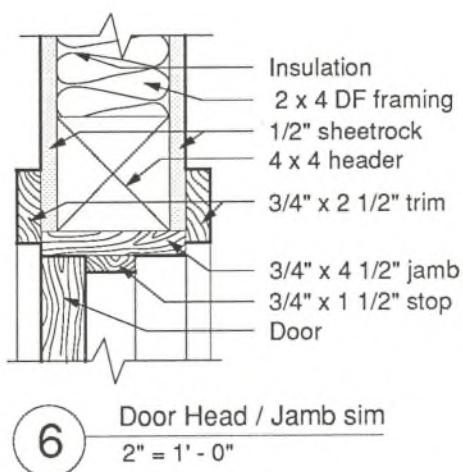
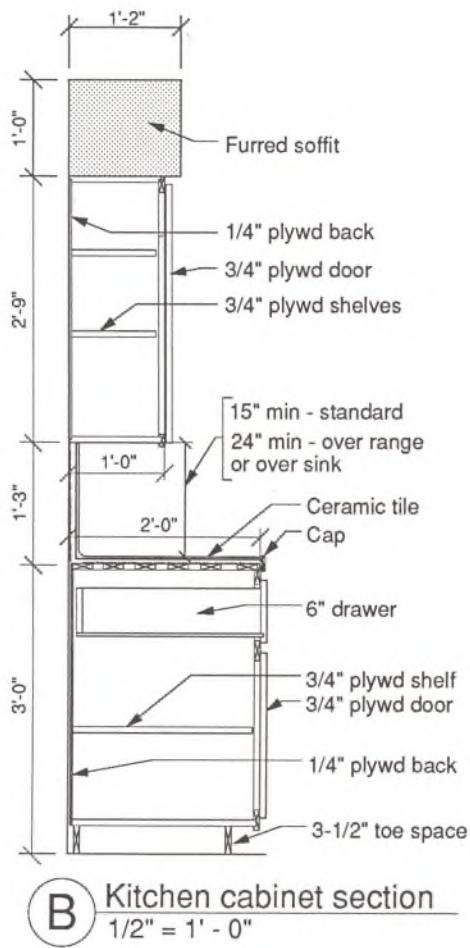
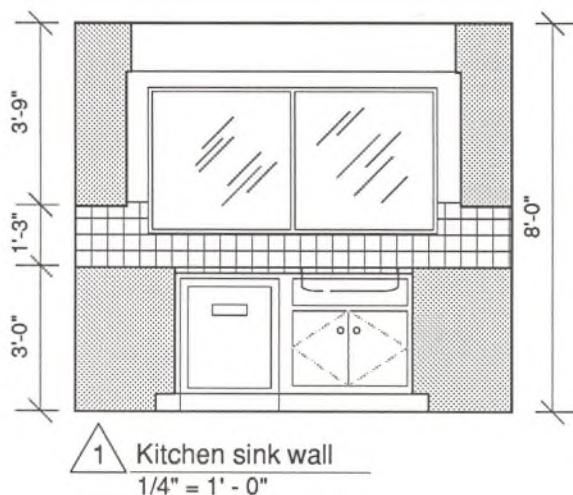

Fig. 25.8
Fig. 25.13 A section view of kitchen cabinetry showing construction methods and measurements.
Fig. 25.14 An interior kitchen wall elevation.
Window and Door Sections and Details Figures 25.8 through 11 are drawings prepared to show typical finish framing around doors and windows. Note that the section-cut symbols on these drawings are keyed to the exterior wall elevation in Fig. 25.12.
Cabinet Sections and Details Figures 25.14 and 15, which are interior wall elevations showing kitchen cabinets, are typical of the type of cabinet drawings required. Similar details should be drawn for any other cabinets in the plan. Fig. 25.13 is a section view of the kitchen cabinets, showing construction methods and materials.
Figures 25.8 through 11 are examples of typical door and window framing details. They show such things as the method of construction and the size and kind of materials used. The elevation view in Fig. 25.14 is keyed to the window and door details. The section-cut symbols show the location of each part and where it is cut through.
The section-cut symbols in Fig. 25.14 indicate where the details are cut through. See Unit 21, Dimensions and Notes, for information on drawing section symbols.
Cabinetry details are typically shown in plan, section, and/or interior elevation views. (See Figs. 25.13 through 15.) An interior-wall elevation is a vertical view of any given wall area.
3. Referring to the kitchen in your floor plan, draw an elevation view and locate each of the appliances to be placed along the wall. (See Figs. 25.14 and 15, and Unit 9, Kitchen Layouts.)